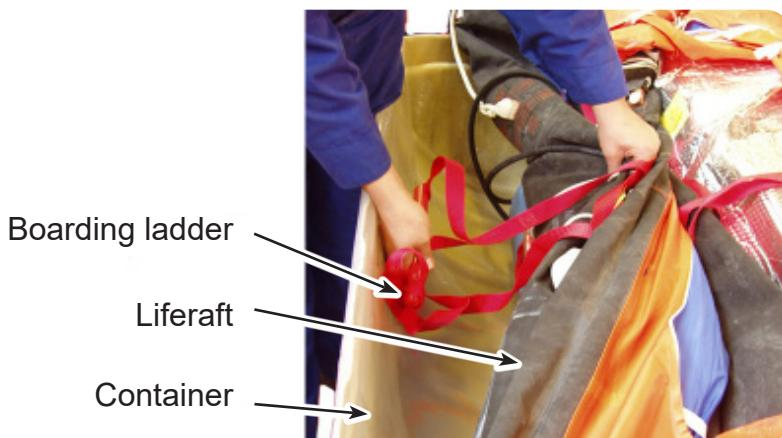

FIGURE 868
- 8.22 Put the boarding ladder neatly under the liferaft next to the cylinder. Refer to **Figure 868**. Applies to 10-20 Person ONLY.